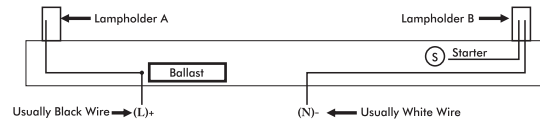

Figure 3: After retrofit
Step 3 : Open the wiring cover to expose the fluorescent lamp ballast . Check the wire of the light fixture before installation of the LED retrofit kit. If the light fixture is providing with the magnetic ballast and starter , disconnect and rewiring the wires at the point as shown in the following figures ( see figure1 to figure 3) .
Both line and neutral power are required to be connected to the lampholder as shown in figure 3.